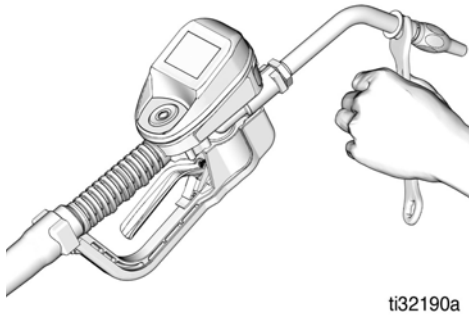

FIG. 10
2. With an open-end adjustable wrench on the flats of the nozzle bushing, tighten firmly (FIG. 10).
- To prevent damaging nozzle, *only* tighten nozzle with wrench on flats of the nozzle bushing as shown in FIG. 10.